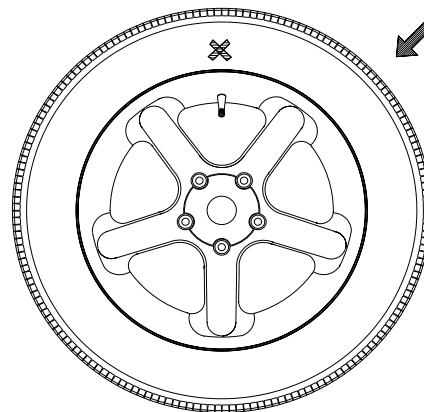

Figure 28 - Step 3, rotate tire on wheel so the valve and X mark line up. Rotate assembly to TDC, press "F".
(2) Remove the wheel assembly from the balancer and deflate and rotate the tire on the rim so the valve points to the cross mark on tire as shown in *Figure 28*